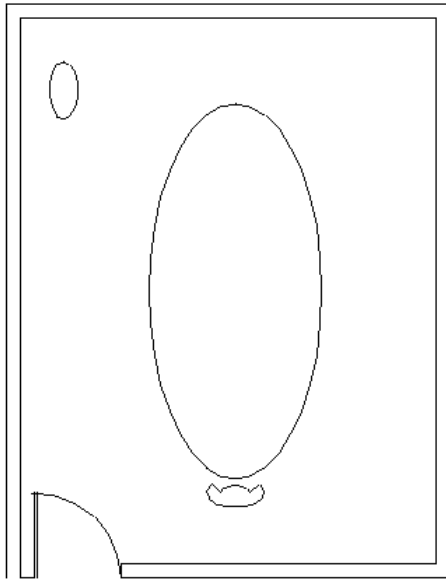

**Figure 7-7:** The conference room with a conference table, a chair, and a side table.
9. Save your drawing. It should look like Figure 7-7.